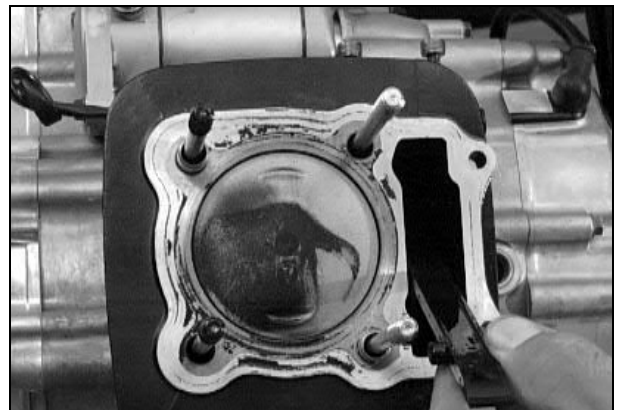

Fig. 46
10. Remove the cam chain guide, (Fig. 46).